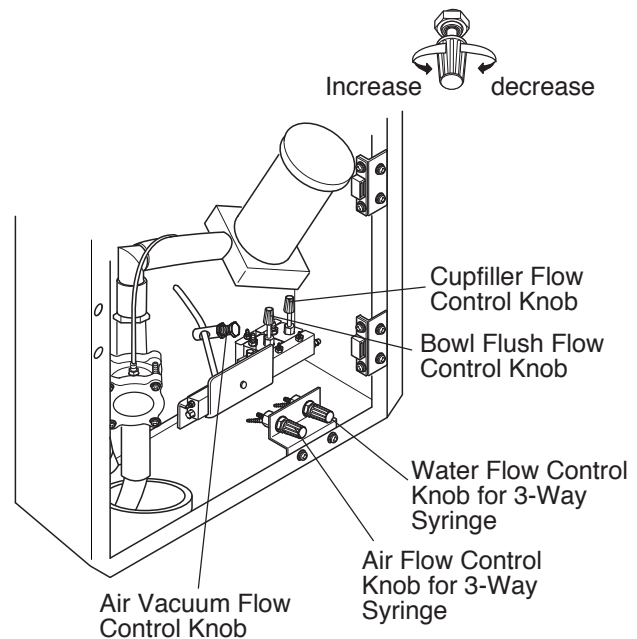

Fig.3-9 Master Valve Block
3. MASTER VALVE BLOCK (Fig.3-9)